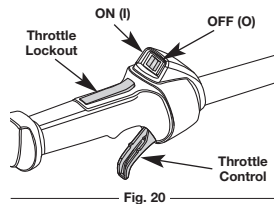

Fig. 20
NOTE: There is no need to turn the unit on. The On/Off Control is in the **ON (I)** position at all times (Fig. 20).
2. Press and hold the On/Off Control switch in the **OFF (O)** position until the unit comes to a complete stop (Fig. 20).